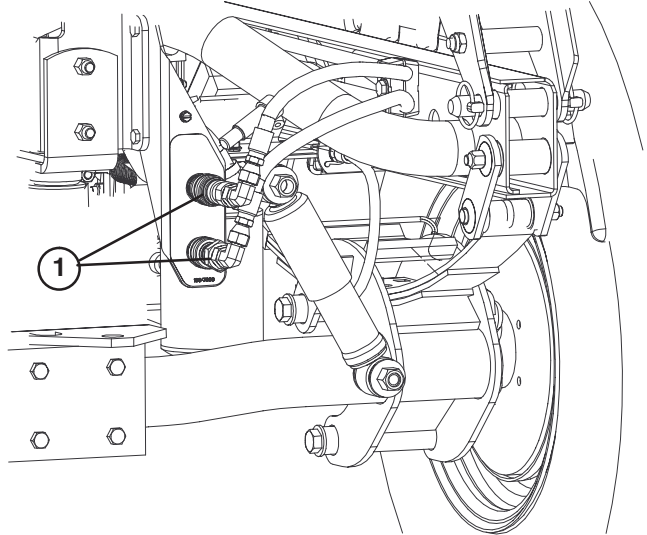

Figure 73
- On both vehicles, disconnect the two quick coupler hoses from the hoses secured to the coupler bracket (Fig. 73).